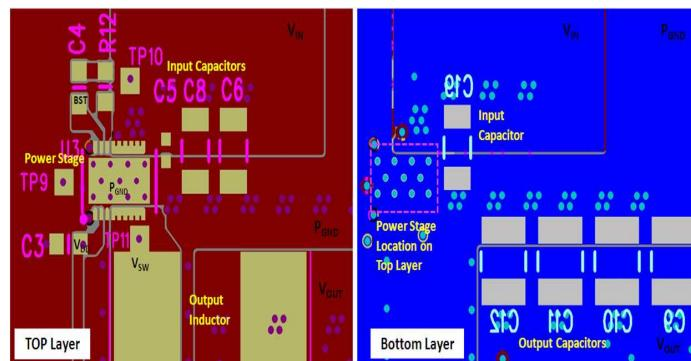

Figure 16. Recommended PCB Layout (Top Down View)
- The placement of the input capacitors relative to V_{IN} and P_{GND} pins of CSD97396Q4M device should have the highest priority during the component placement routine. It is critical to minimize these node lengths. As such, ceramic input capacitors need to be placed as close as possible to the V_{IN} and P_{GND} pins (see Figure 16). The example in Figure 16 uses 1 × 1 nF 0402 25 V and 3 × 10 μ F 1206 25 V ceramic capacitors (TDK Part # C3216X5R1C106KT or equivalent). Notice there are ceramic capacitors on both sides of the board with an appropriate amount of vias interconnecting both layers. In terms of priority of placement next to the Power Stage C5, C8 and C6, C19 should follow in order.
- Use the smallest drill size allowed in your design. The example in Figure 16 uses vias with a 10 mil drill hole and a 16 mil capture pad.